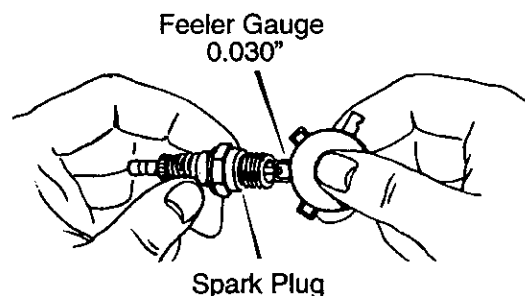

Figure 16
7. Set the gap between the electrodes of the new spark plug at .030 inch (Figure 16).